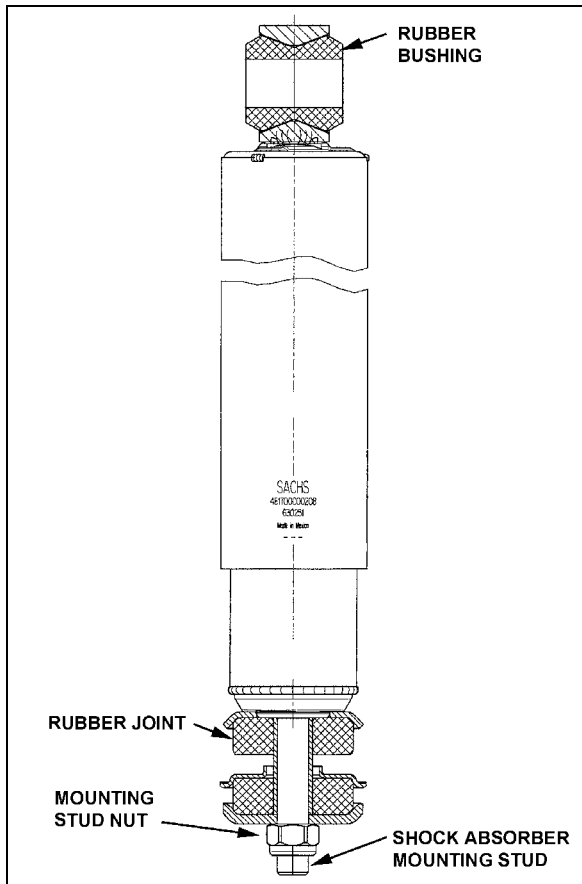

FIGURE 27: SHOCK ABSORBER 161124
2. Remove the nut and washer from shock absorber mounting pin (upper side), taking care to identify the inner and outer washers to ease reinstallation. Refer to figure 27 for details.
3. Place the inner washer on shock absorber pin (Fig. 27).